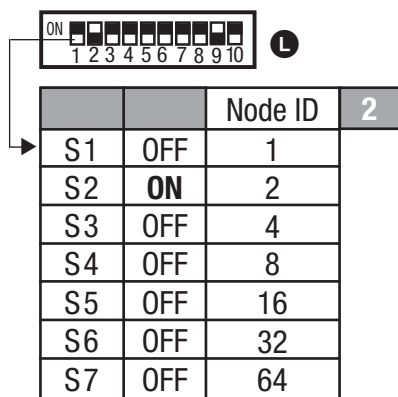

Fig. 24 (Factory setting)
(example: **003***). For more information see **Fig. 24** and **25** on page 24.
3. Set node ID of the working electrode to “**002**”, **Fig. 14, Fig. 24**